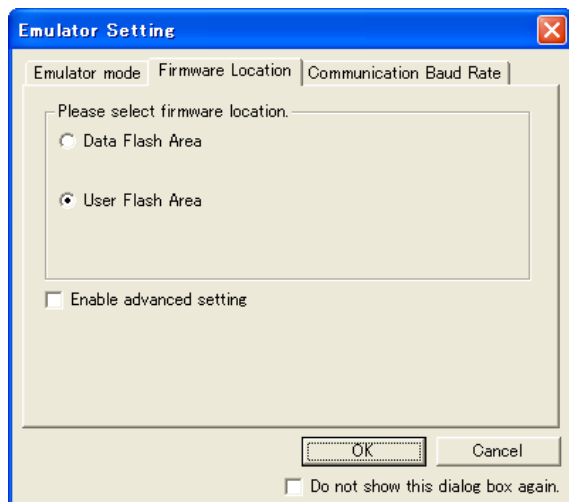
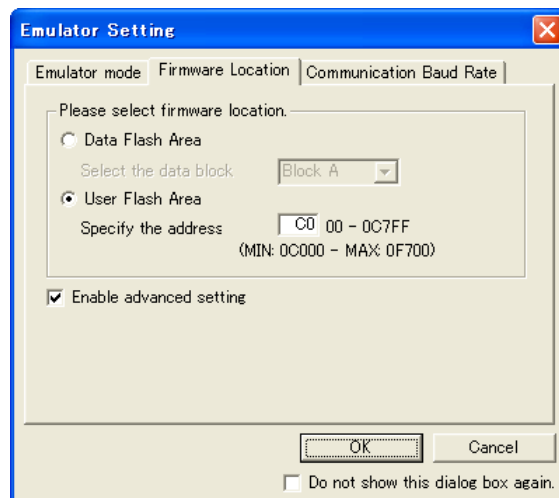

Figure 6.1 [Firmware Location] tab of [Emulator Setting] Dialog Box (1)
Figure 6.2 [Firmware Location] tab of [Emulator Setting] Dialog Box (2)
- When using the MCU types R5F21184, R5F21194, R5F211A4 or R5F211B4, the [Emulator Setting] dialog box shown in Figure 6.1 is displayed. Specify the area which will not be used by the user system. If the [Enable advanced setting] check box is checked, the area used by the emulator can be specified with the address (Figure 6.2).